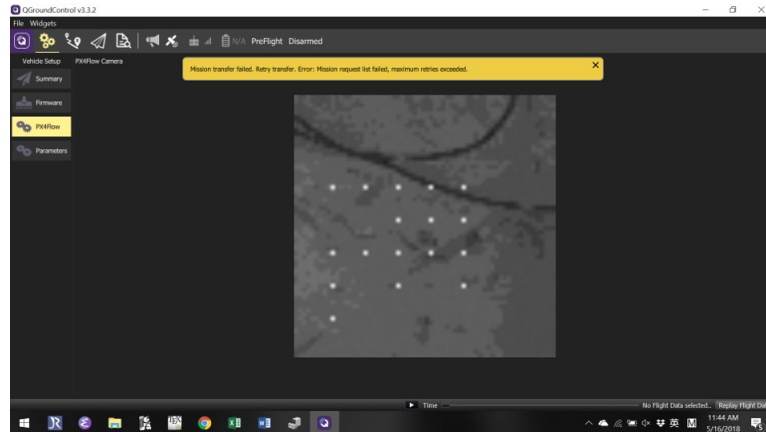

Figure 2: Figure of the QGroundControl software. A view from the camera can be displayed.
- d) Click on the second icon and the PX4Flow, a video will be displayed as shown in Fig. 2. From the video, the focus of the sensor can be adjusted.